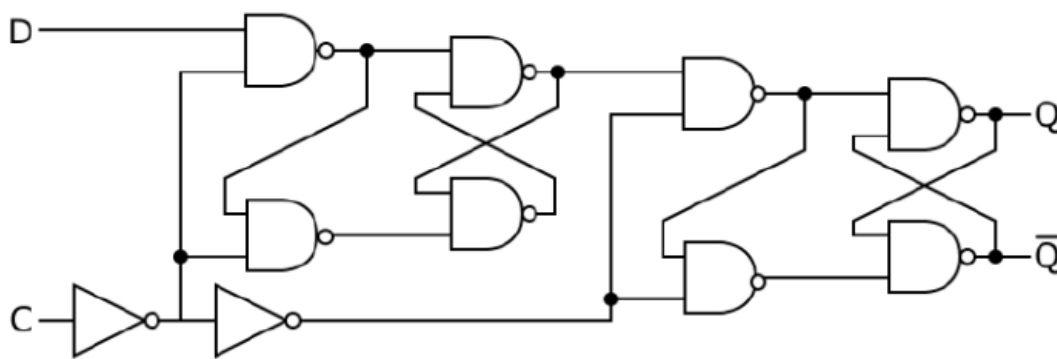

Fig. 1
1. Consider a positive-edge-triggered D flip-flop as shown in Fig. 1. Assume **CLK=100MHz with $t_r=t_f=50\text{ps}$, duty cycle=50% and $V_{DD}=1.8\text{V}$.**